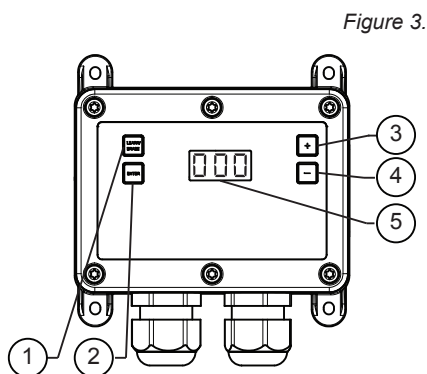

Figure 3.
The Access 1000™ model has an integrated display that shows additional system relevant information (Fig. 3).
2. To select what memory position to use (memory positions can be 1-500) press the Memory Position UP or Memory Position DOWN buttons (see fig. 3). The left decimal on the display indicates whether the chosen memory position is already used.